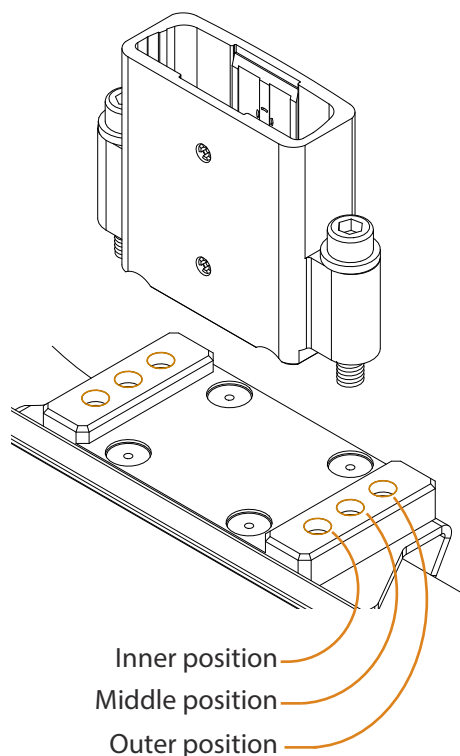

Figure 33. Left-hand armrest mount
The seat width is determined by the position of the armrest mounts, see Figure 33.
1. Unscrew the two screws that secure the armrest mount (Figure 33).